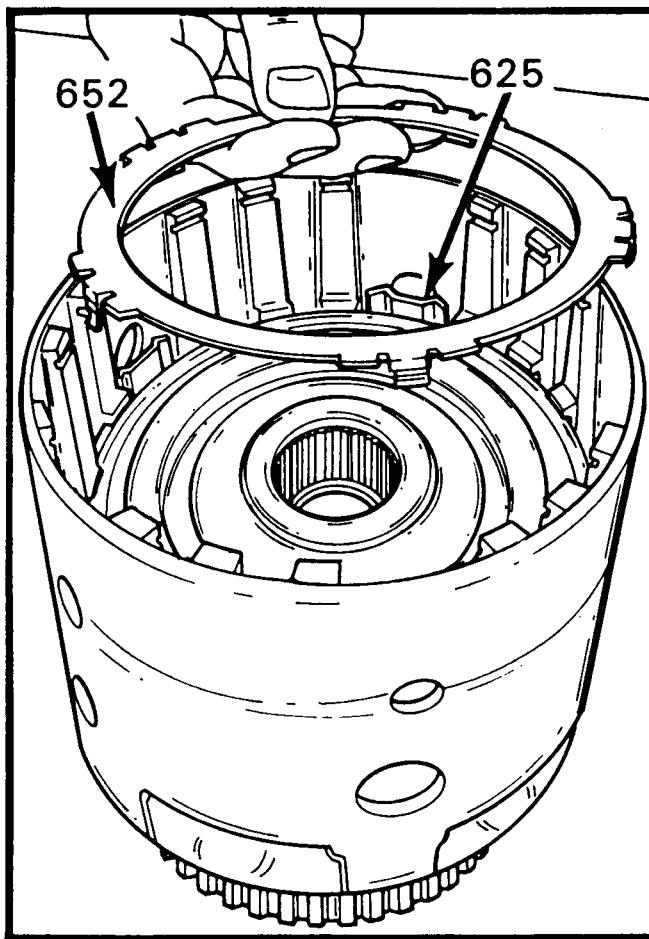

Figure 135
1. Install the 3-4 clutch retainer as shown in Figure 135. Be sure that each tab on the retainer is on the outside of the legs of the 3-4 apply ring. SOME MODELS USE A DIFFERENT TYPE OF RETAINER THAT ALSO SERVES AS APPLY PLATE (SEE FIGURE 141).